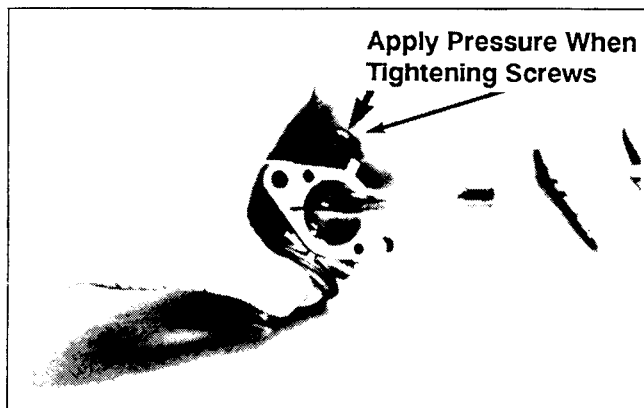

Figure 5-7. Installing The Throttle Lever/Shaft.
4. Apply finger pressure to the throttle lever/shaft to keep it firmly seated against the pivot in the carburetor body. Rotate the throttle shaft until the throttle plate closes the bore around its entire perimeter; then tighten the screws. See Figure 5-7.